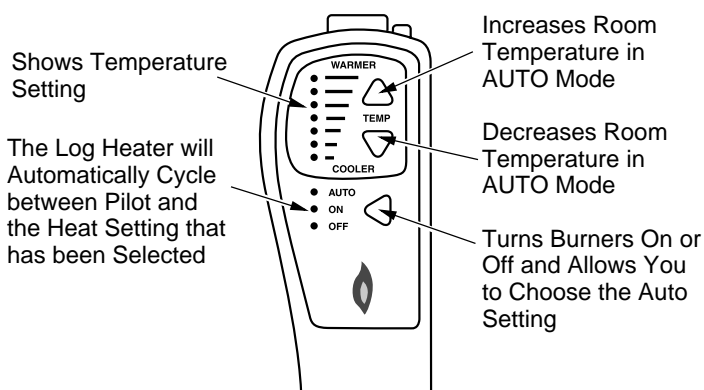

Figure 36 - Thermostat Hand-Held Remote Control Unit Selections (GHRCTA Series Only)
- 2b. Press the AUTO/ON/OFF button on the hand-held remote control (see Figure 36, page 18). The lights to the left of the button will show AUTO, ON, or OFF.